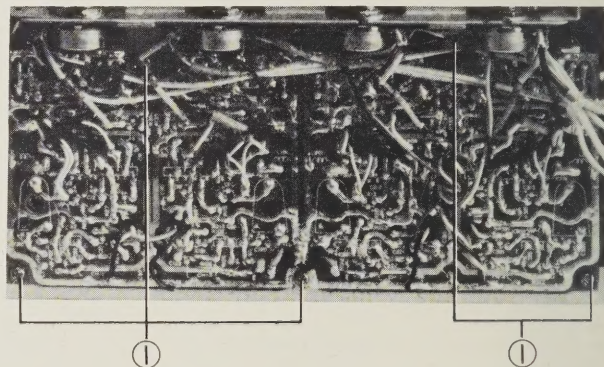

Fig. 7
- 1) Recording/playback amp (Fig. 7)